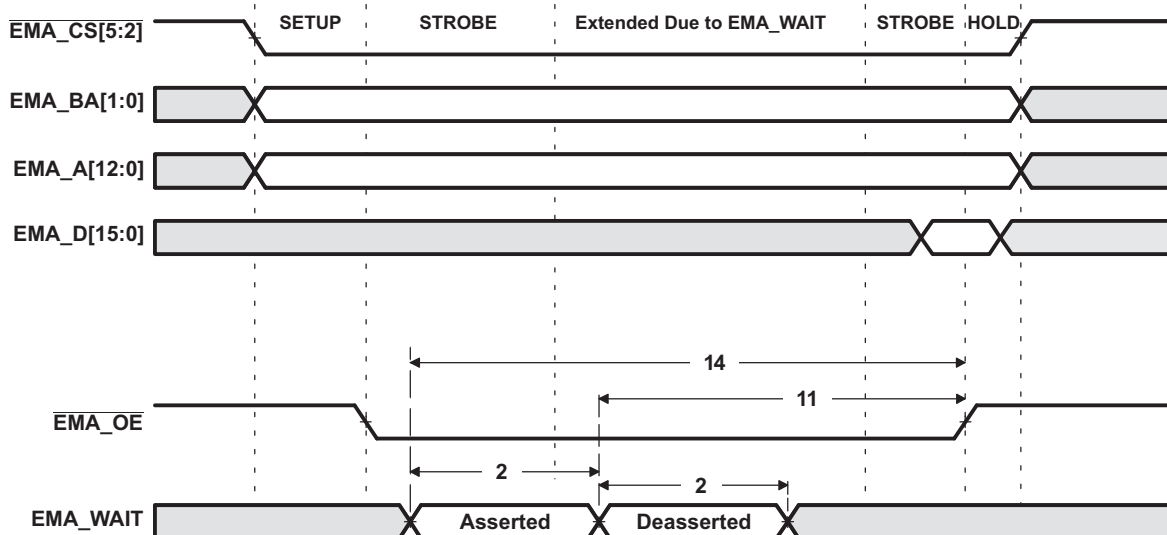
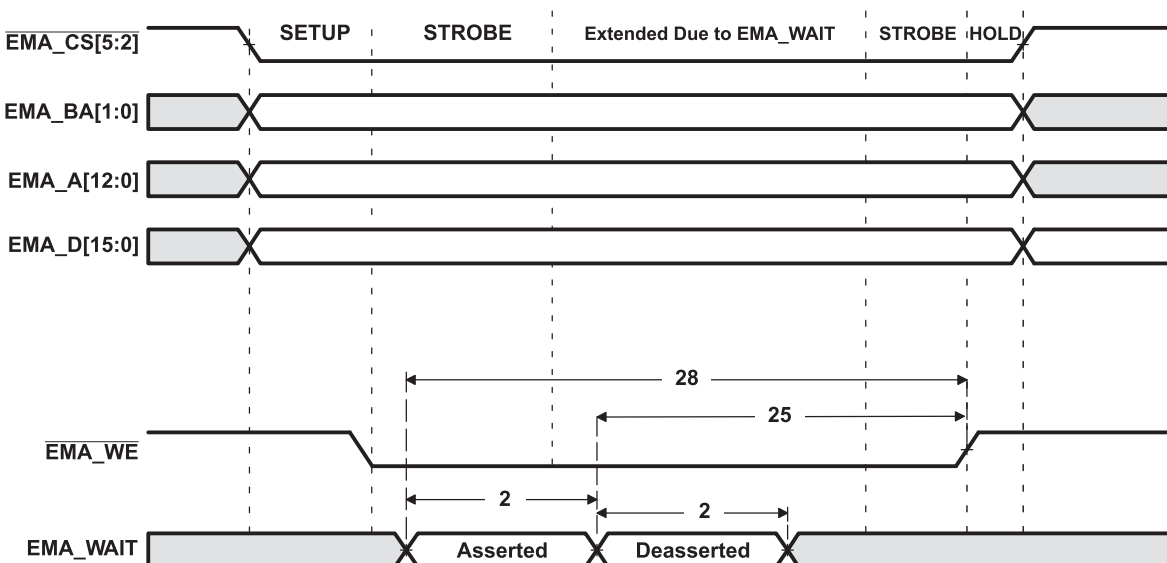

Figure 6-18. EMA\_WAIT Read Timing Requirements
Figure 6-19. EMA\_WAIT Write Timing Requirements
(1) E = EMA\_CLK period or in ns. EMA\_CLK is selected either as SYSCLK3 or the PLL output clock divided by 4.5. As an example, when SYSCLK3 is selected and set to 100MHz, E=10ns.
(2) Setup before end of STROBE phase (if no extended wait states are inserted) by which EM\_WAIT must be asserted to add extended wait states. Figure 6-18 and Figure 6-19 describe EMIF transactions that include extended wait states inserted during the STROBE phase. However, cycles inserted as part of this extended wait period should not be counted; the 4E requirement is to the start of where the HOLD phase would begin if there were no extended wait cycles.
**Table 6-24. EMIFA Asynchronous Memory Switching Characteristics(1) (2) (3)**